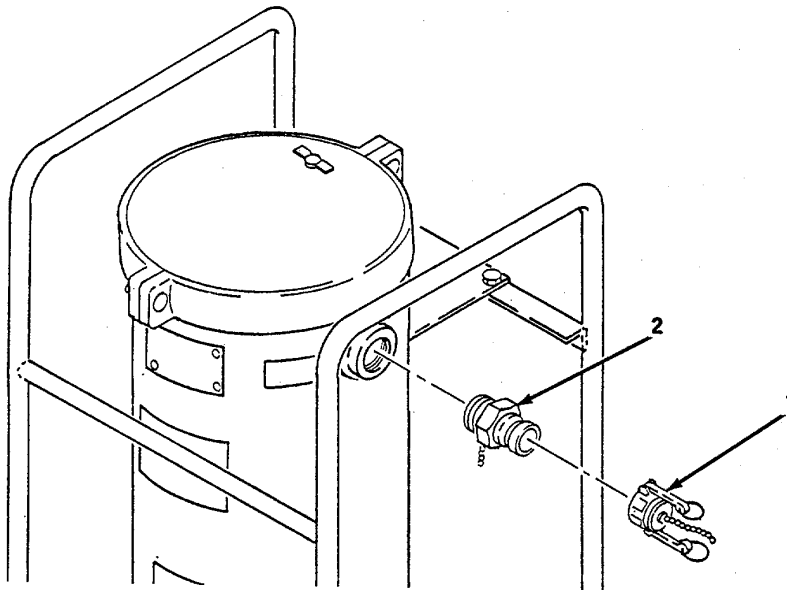

Figure 4-12. Coupling Half Quick Disconnect (Outlet), Replace.
- (3) *Coupling half quick disconnect (outlet).* (figure 4-12)
- (a) Remove dust cap (1).
- (b) Remove coupling half quick disconnect (2).
- (c) Apply sealing compound to threads on quick disconnect (2).
- (d) Install coupling half quick disconnect (2).
- (e) Install dust cap (1).